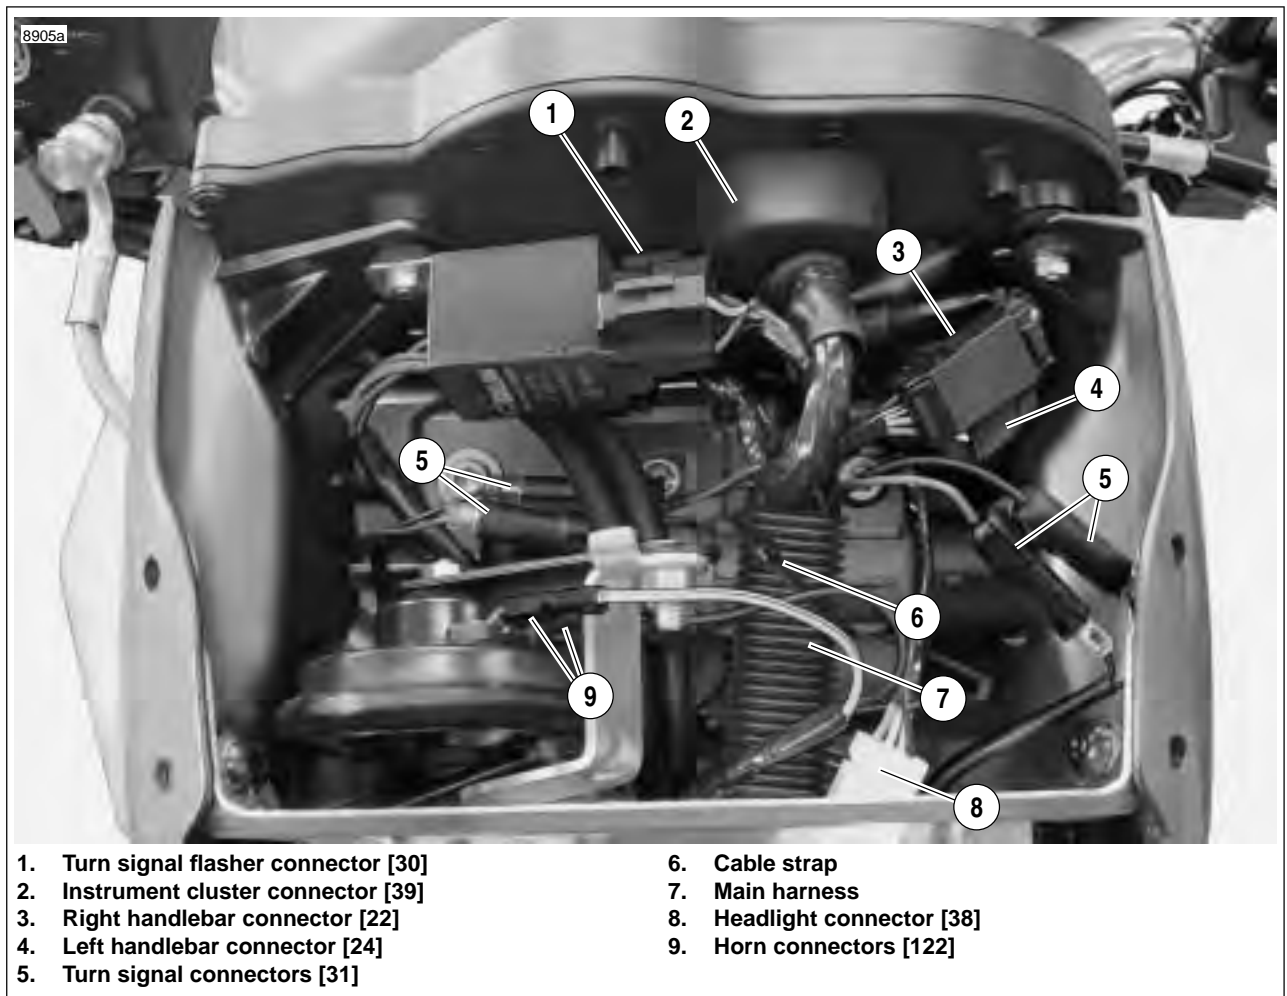

Figure 7-84. Electrical Connectors Behind Windscreen
8. See Figure 7-84. Connect:
9. Install cable strap (6) loosely around main harness (6) and ignition switch.